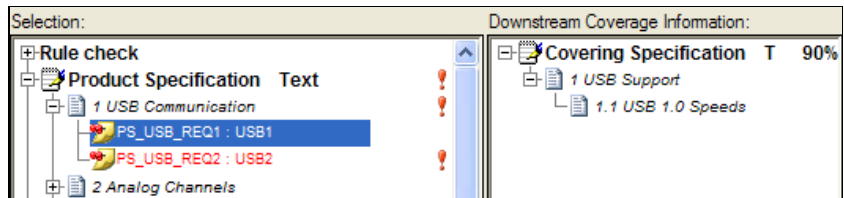

Figure 4-2. PS_USB_REQ1 Selected in Coverage Analysis View
4. Click the **PS_USB_REQ1** requirement as shown in Figure 4-2. The Downstream Coverage Information column displays the 1.1 USB 1.0 Speeds section as a covering element because this section of the document contains a reference to the requirement. The tree view pane also includes the parent, 1 USB Support section of the covering document.